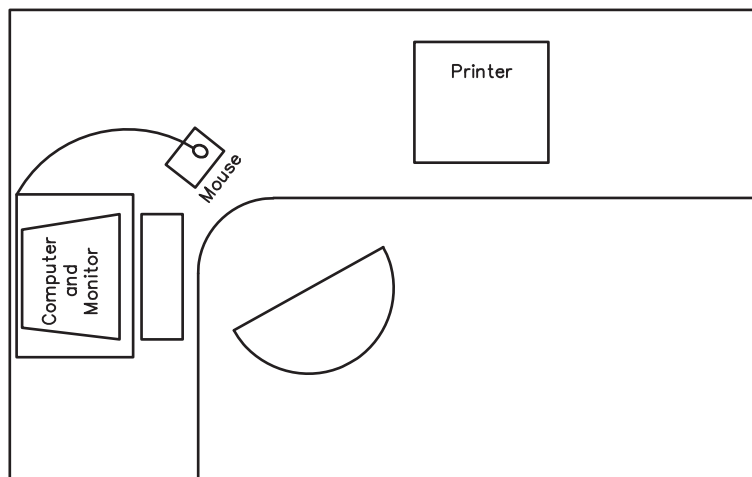

Fig. 13-3
3. Next, draw the basic representations of the components that make up a CAD workstation, as shown in Fig. 13-3. Approximate their sizes, and omit the text. Save your work.